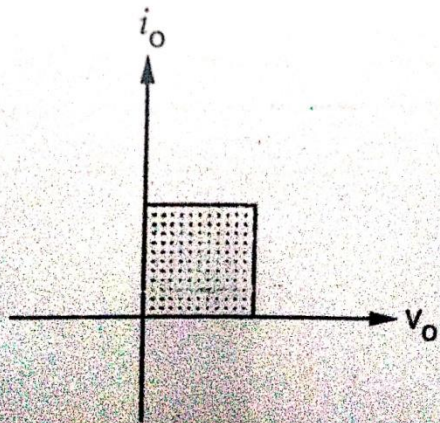

Fig. 2.2.3 Single quadrant operation
5) Since output voltage and current both are always positive it is also called first quadrant or single quadrant converter. This is shown in fig. 2.2.3.